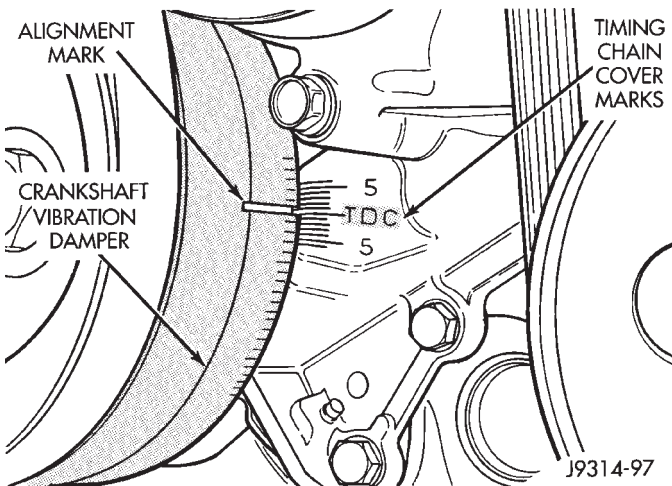

Fig. 33 Damper-To-Cover Alignment Marks—Typical
- (1) Disconnect negative cable from battery.
- (2) Remove air cleaner tube at throttle body.
- (3) Disconnect coil secondary cable at distributor cap.
- (4) Disconnect all secondary spark plug cables at distributor cap. Note and mark position before removal.
- (5) Remove distributor cap from distributor (two screws).
- (6) Mark position of distributor housing in relationship to engine or dash panel. This is done to aid in installation.
- (7) Before distributor is removed, number one cylinder must be brought to Top Dead Center (TDC) firing position.
- (8) Attach a socket to Crankshaft Vibration Damper mounting bolt.
- (9) Slowly rotate engine clockwise, as viewed from front, until indicating mark on crankshaft vibration damper is aligned to 0 degree (TDC) mark on timing chain cover (Fig. 33).
removed). Then continue to slowly rotate engine clockwise until indicating mark (Fig. 33) is aligned to 0 degree (TDC) mark on timing chain cover.